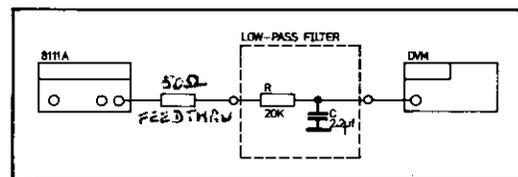

Figure 5-3
DVM, Lowpass filter as shown in Figure 5-3, Scope, Spectrum analyser (Distortion analyser)
7. Set DVM to DC, 10V Range. Use DVM built in filter function, otherwise use set-up as shown in Figure 5-3
- 25. Set DVM to DC, 10V Range. Use built-in filter or set-up as shown in Figure 5-3•